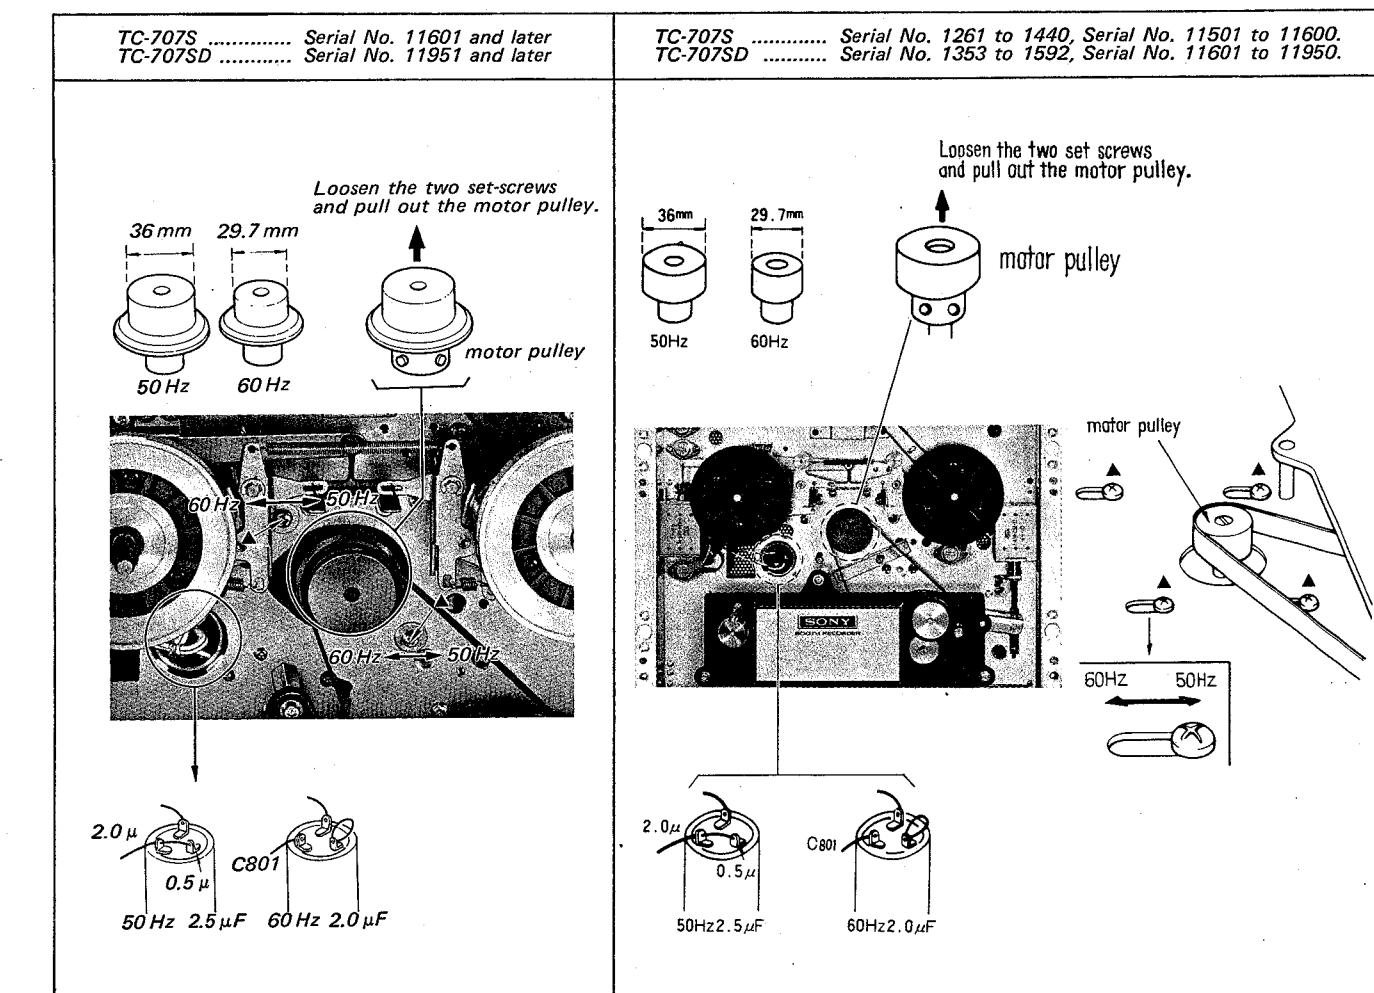

Fig. 5-1. Motor position and adjusting parts Location
- 1) To make the tension of the capstan belt constant, adjust the position of the motor by loosening the screws marked with ▲ and by sliding the motor in the direction shown in Fig. 5-1.
- 1) Change the capacitance of the motor starting capacitor (C801). For a 50 Hz line frequency, both end taps should be connected by a jumper wire, while for a 60 Hz, these should be left open as shown in Fig. 5-1.